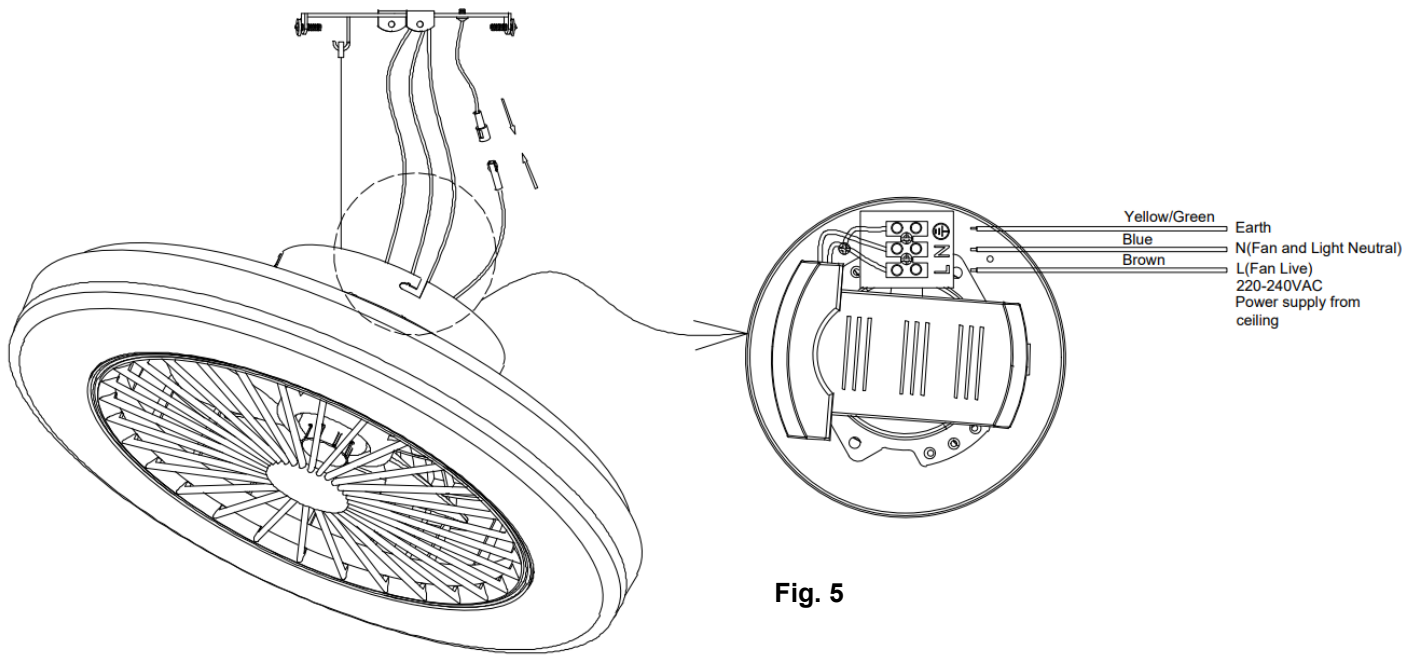

Fig. 5
#### **PREPARE AND COMPLETE THE ELECTRICAL WIRING --- WIRING DIAGRAM (FIG. 5)**
Ensure the fan assembly earth wire is connected to the earth wire from the mounting bracket in the diagram below. (Fig. 5)
**From mains supply to terminal block on the canopy of fan assembly: (Fig. 5)**